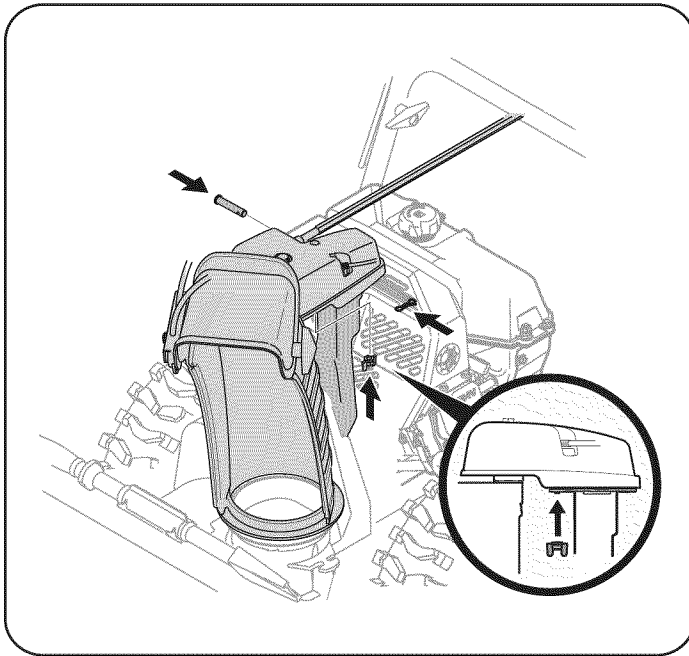

Figure 10
9. Finish securing chute control head to chute support bracket with wing nut, and clevis pin and bow-tie cotter pin removed in Step 2. Do not overtighten. See Figure 10.